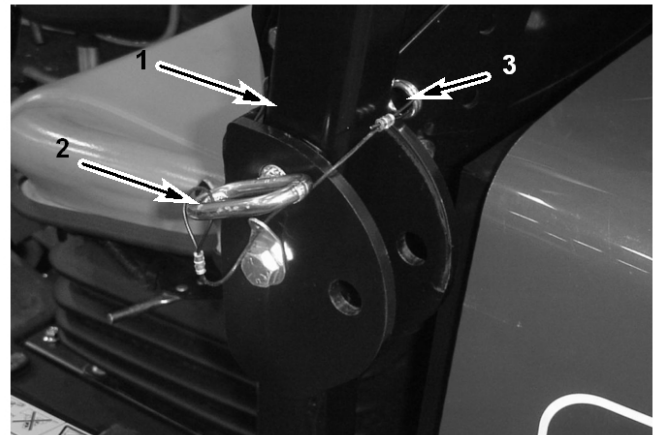

Figure 11
1. Remove the hairpin cotter pins and remove the two pins from the roll bar (Figure 11).
2. Raise the roll bar to the upright position and install the two pins and secure them with the hairpin cotter pins (Figure 11).